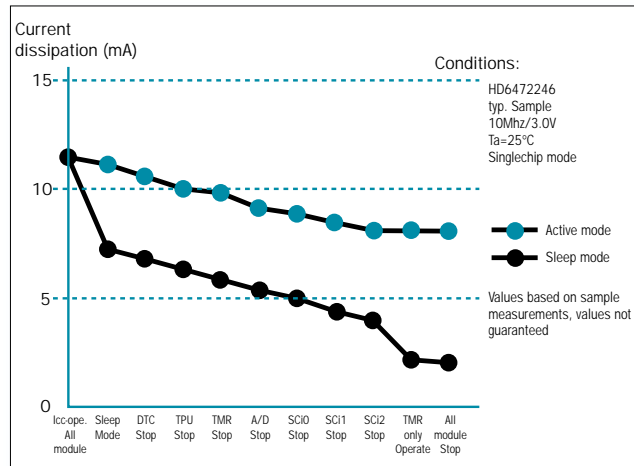

Figure 8
- Just like the CPU can be stopped at times of low activity, some H8/300H and all H8S derivatives allow to stop peripheral modules. For example, while the ADC is not needed the software simply clears the corresponding bit in the module stop register. Figure 8 shows how much current is saved per module for a H8S/2355 and also shows a curve for H8S/2246 with one module after the other being turned off. The lower curve shows the same, if the CPU is brought into sleep as well.